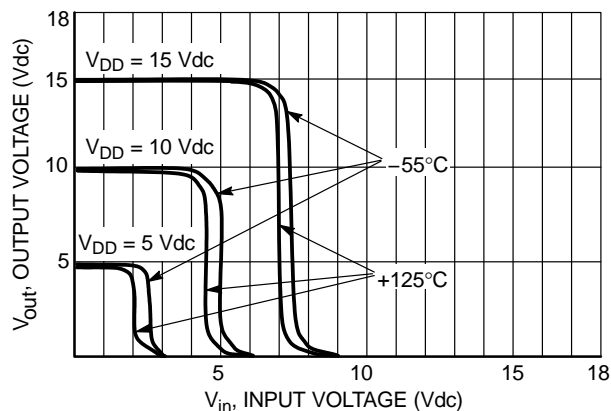

Figure 4. Typical Voltage Transfer Characteristics versus Temperature
1. Temperature Derating: All Packages: See Figure 4.